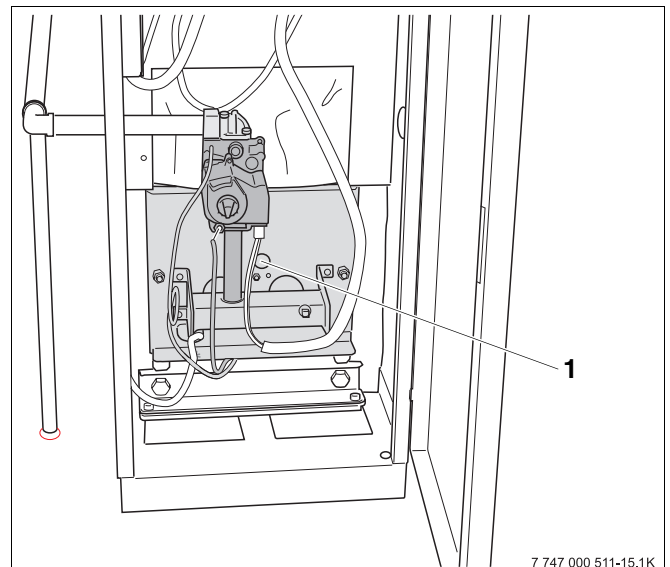

Fig. 6 GC124 SP boiler
10. Light the pilot burner with a match using the furnished match holder. Insert the lit match through the sight glass (→ Fig. 6).